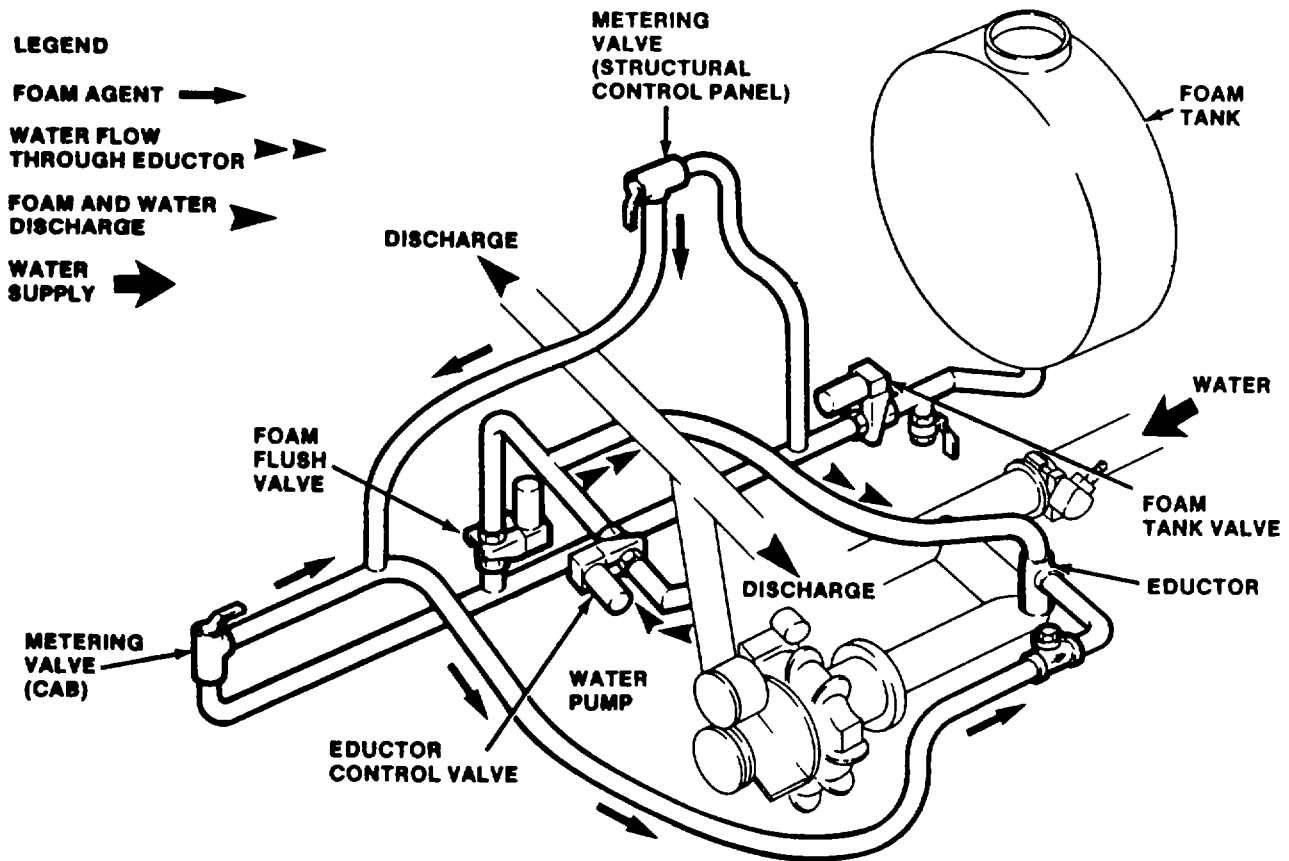

Figure 1-37. Foam Induction System
(1) Foam concentrate is released from the foam tank and metered into the water flow to the pump, (see fig. 1-37). In CFR mode, the control valves through which the concentrate is released and metered are operated from the cab. In structural mode, these functions are controlled from the structural control panel. To produce foam, water (derived from the pump discharge) is cycled through the eductor into the pump suction. In the eductor, the water draws the foam concentrate into the flow by venturi action.
(2) To remove residual foam from the foam lines after firefighting, the foam tank valve is closed and the flush valve is opened. Water from the pump discharge is then cycled through the metering valves and through the eductor.